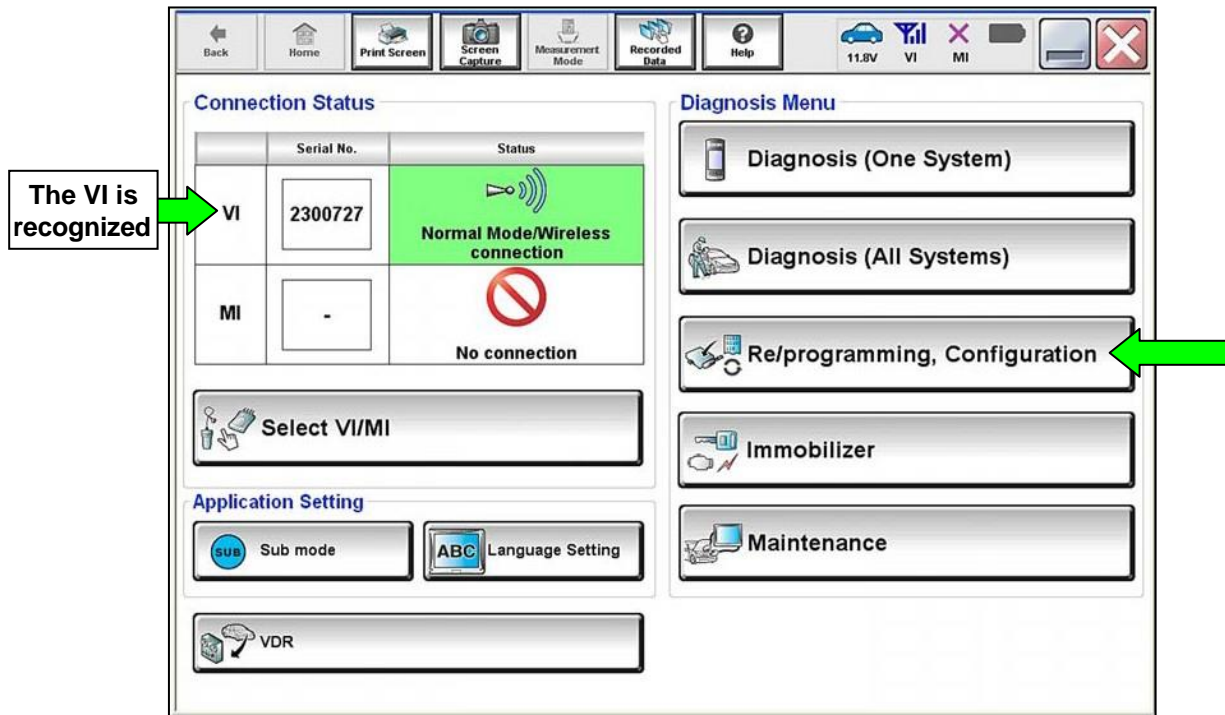

Figure 59
- a. The serial number will display when the VI is recognized (Figure 59 on page 24).